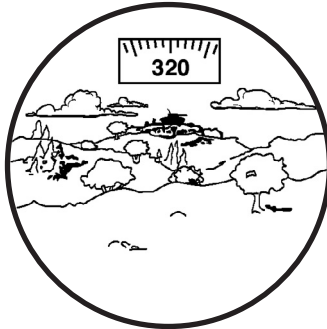

FIGURE 2-16. VIEW THROUGH INSTALLED COMPASS
3. To view the compass via the monocular, hold the compass with your index finger on top and your thumb on the illumination button on the bottom. Press the button slowly with your thumb until the desired brightness is obtained. The image should appear as shown in Figure 2-16.